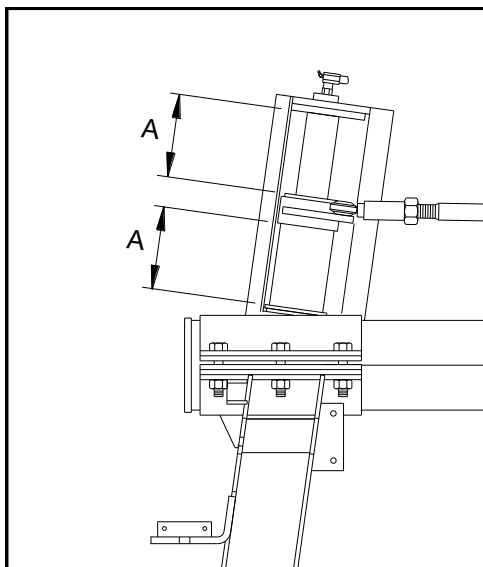
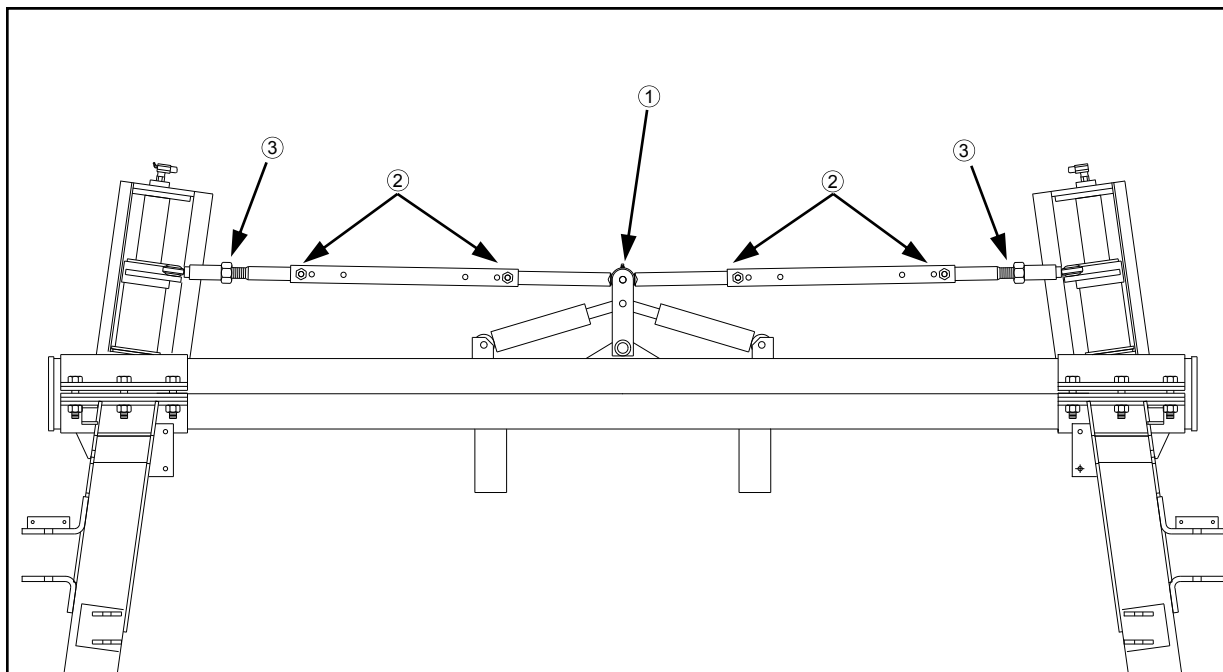

FIG 4.1
FIG 4.2
Dimension A (fig. 4.1) must be equal (see page XXX) and steering pivot must be in vertical position (fig. 4.2, item 1).
2. Loosen tie rod bolts (fig 4.2, item 2) and tie rod jam nuts (fig. 4.2, item 3). Remove the bolts and nuts from the tie rod.